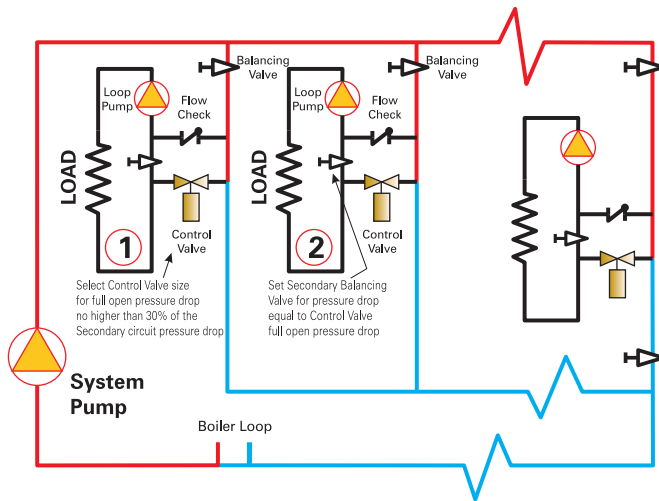
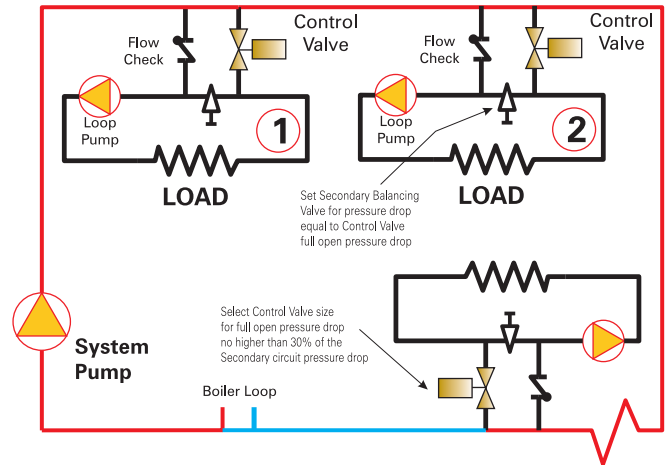

Figure 5.13: Primary/Secondary Piping Cross-over Design
Figure 5.14: Primary/Secondary Piping Series Loop (One-Pipe)
2. Primary/Secondary Piping (Figures 5.13 and 5.14)
- c) The secondary loops can either be piped off the main loop in series, as in Figure 5.14, or off of parallel crossover bridges as in Figure 5.13. The crossover bridge design is much more versatile since all of the secondary loops see the same supply water temperature. In the series system the supply temperature drops as the water proceeds around the main loop since hot water is being taken by the loops and cooler water is returned into the main loop flow.